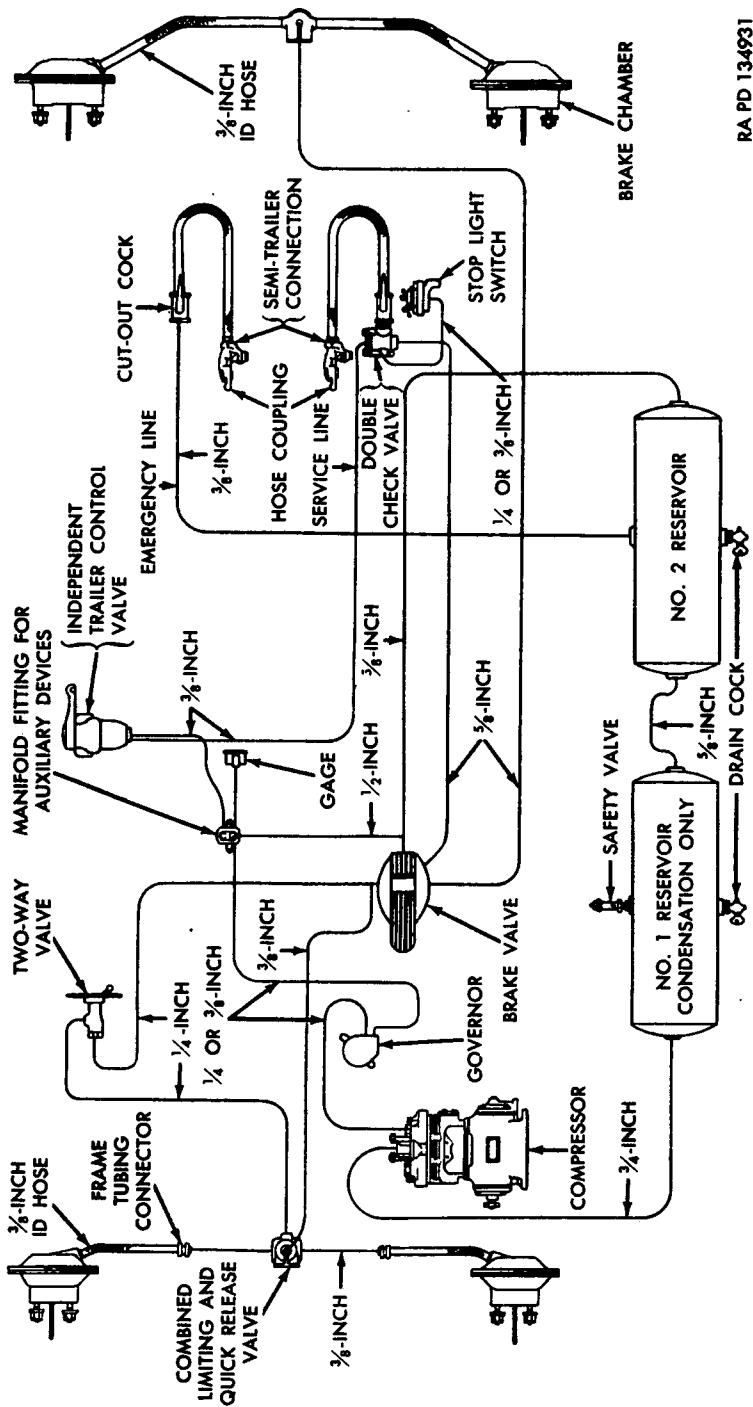

Figure 10. Typical piping diaphragm for four-wheel tractor air brake system.
b. Four-Wheel Tractors. The piping diaphragm in figure 10 shows a typical arrangement for four-wheel tractors, with certain auxiliary devices. The compressor, governor, brake valve, reservoirs, and brake